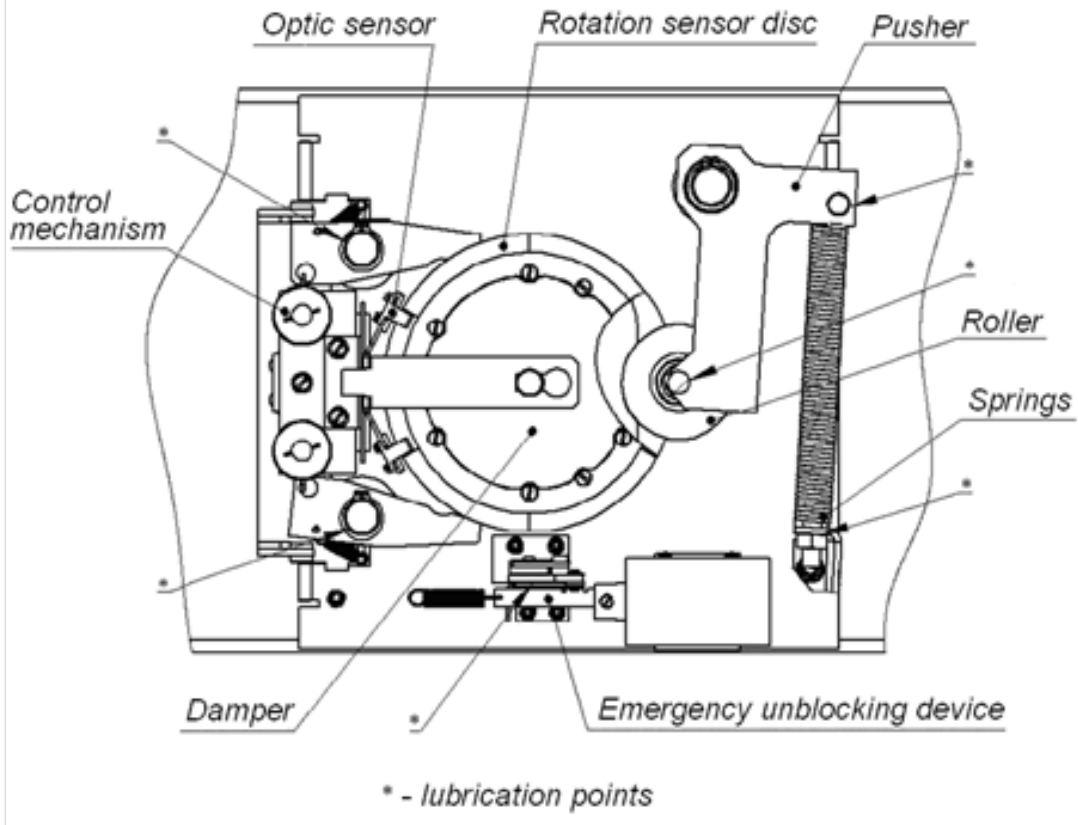

Figure 24. Interior components of the turnstile mechanism
6. Inspect the resetting mechanism (a pusher, springs and a roller), optic sensors and a damper (Ref. Fig. 24).
8. Lubricate with machine oil (lubrication points are marked in Fig. 24):
12. Check reliability of the barrier arm (5) fastening.
15. Return the main cover (2) into its operating position.